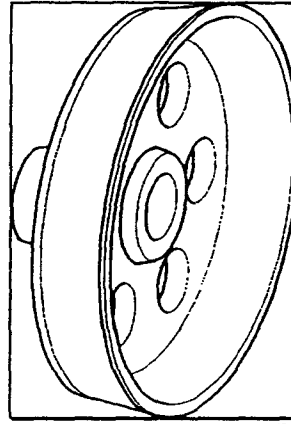

Fig.8
**#14017456 UF345 adapter (Universal flange for centerless wheels - Fig.8/a).**